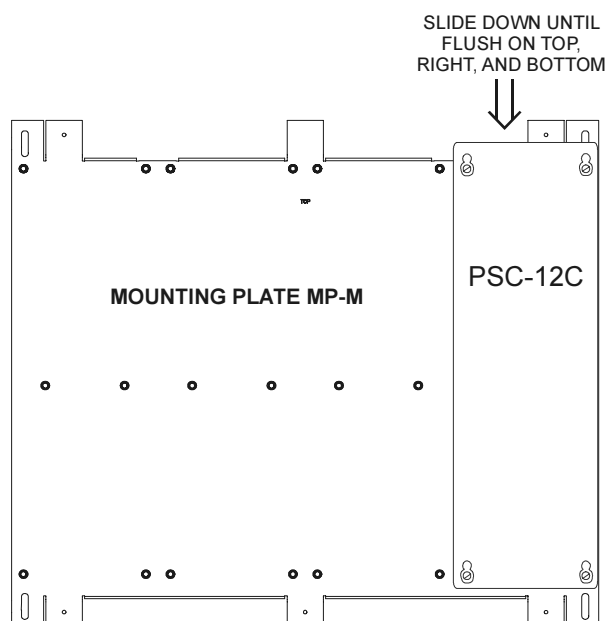

Figure 6
2. Place the PSC-12C over the four screws on the Mounting Plate and slide it down or towards you to rest on the four screws. (Refer to Figure 6.) When the PSC-12C is in the correct position it will be flush with the top, bottom and right side of the Mounting Plate.